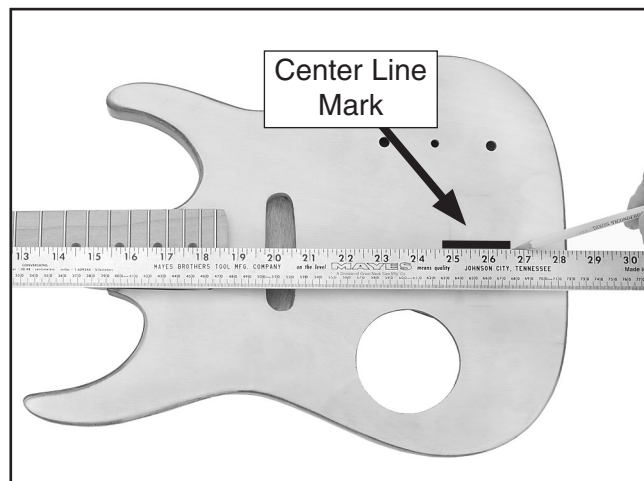

Figure 3. Marking center line.
6. Turn the guitar face up and place a long straightedge along the center of the fretboard and mark the center line, as shown in **Figure 3**.